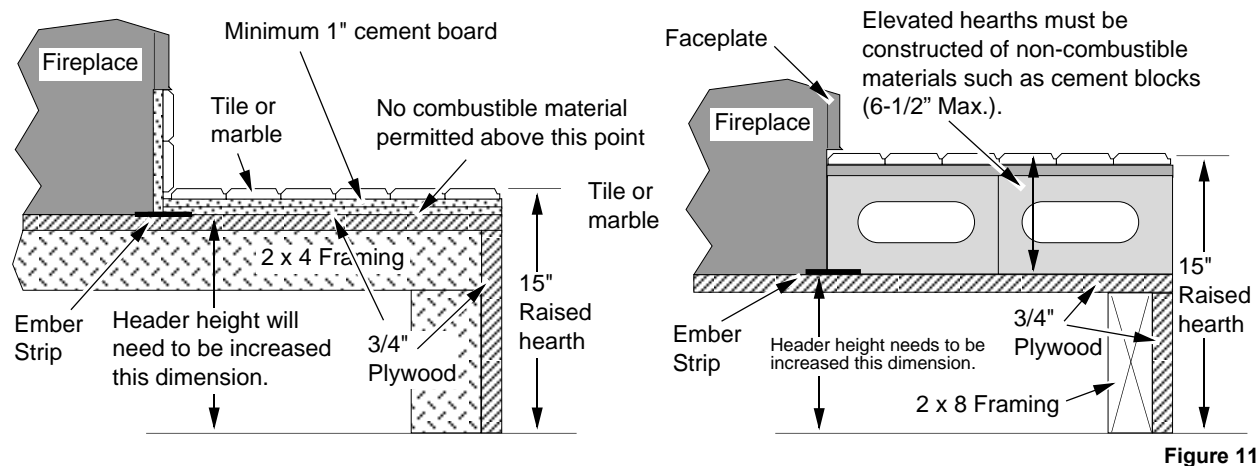

Figure 11
- The fireplace (and hearth, if desired) may be placed on a platform designed to support the fireplace and vent (approximately 600 lbs.). See Figure 11.